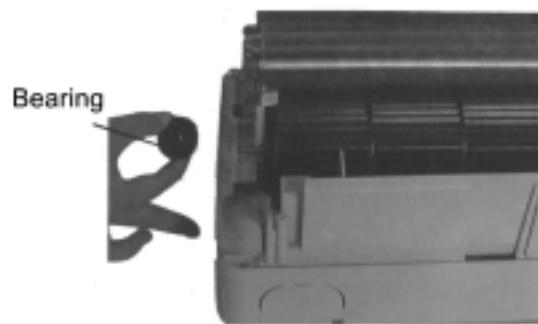

Fig 10
2. Pull out the bearing on the left side. (Fig 10)